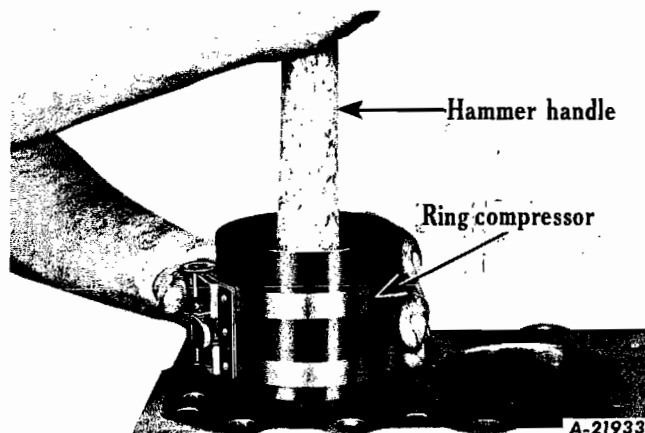

Fig. 72
1. Install one connecting-rod and piston assembly down through top of cylinder block having slot in piston towards camshaft side of engine. Pistons are also marked with an arrow indicating front of engine. Use a piston ring compressor sleeve to compress piston rings and thus avoid possible ring damage (Fig. 72).